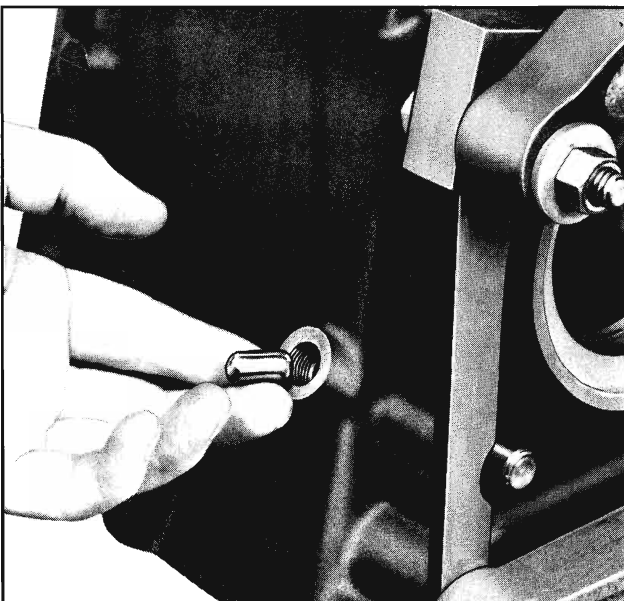

Fig. 7-46 Installing Interlock
12. Coat interlock lightly with oil and install in detent cavity. (Fig. 7-46).